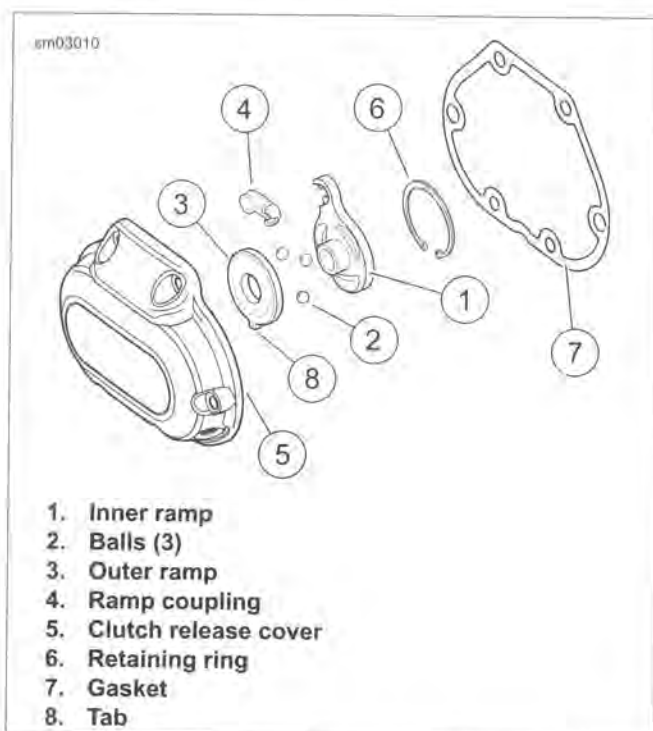

Figure 6-6. Release Mechanism Assembly
1. See Figure 6-6. Wash the ball and ramp mechanism components in cleaning solvent.
2. Inspect the three balls (2) and ball socket surfaces on ramps (1, 3) for wear, pitting, surface breakdown and other damage. Replace as necessary.
3. Check fit of the ramp coupling (4) on inner ramp (1). Replace both parts if there is excessive wear.
4. Inspect the retaining ring (6) for damage or distortion.
6. Check the bore in the clutch release cover (5) where the ramps (1, 3) are retained. There should be no wear that would cause the ramps to tilt, causing improper clutch adjustment.
2. See Figure 6-6. Place outer ramp (3) with ball socket side up in clutch release cover. Confirm tab (8) is in clutch release cover slot.